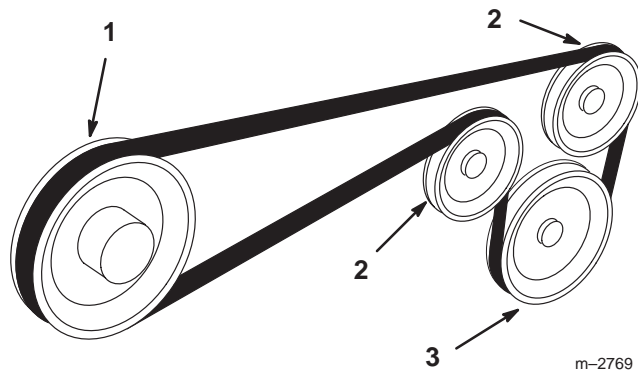

Figure 16
22. Route belt around idler pulleys (Fig. 16).
23. Rotate idler bracket to stretch spring and slip belt over snowthrower pulley (Fig. 16),